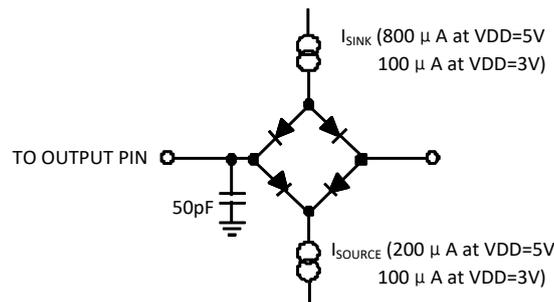

Figure 1. Load Circuit (excess time and bus release time)
If there is no special description, VDD=2.7 to 5.25V, GND=0V; fCLKIN=2.4576MHz, input logic low is 0V, input logic high is VDD. Test at 25°C. All input signals meet tR=tF =5ns (10% to 90% of VDD) and start timing from 1.6V. See Figure 1 and Figure 2.
5. These values are measured in load shown in Figure 1. It is defined that the time required for output crossing V_{OL} or V_{OH}.
6. These values are measured when data output is 0.5V (load situation is shown in Figure 1). Then backstep by measured data to remove the effect of charging and discharging 50pF capacitor. It indicates all time values in parameter table are real bus release time and are independent of external load capacitors.